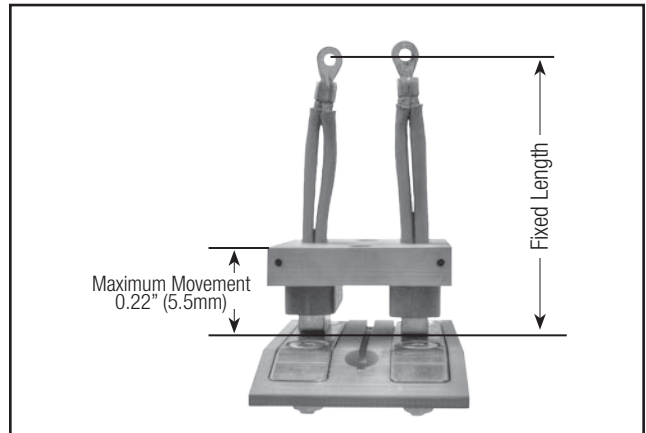

Figure 5-2 Allowable Brush Pack Movement
1. Mount the collector assembly using the provided clearance holes for socket head cap screws. See **Figure 5-2**.
- Care must be taken to ensure the brush lead wires are not damaged during the installation process, and have sufficient room to allow for movement of the brush pack. Brush pack movement is limited to the 5.5mm (0.22in). See **Figure 5-2**.